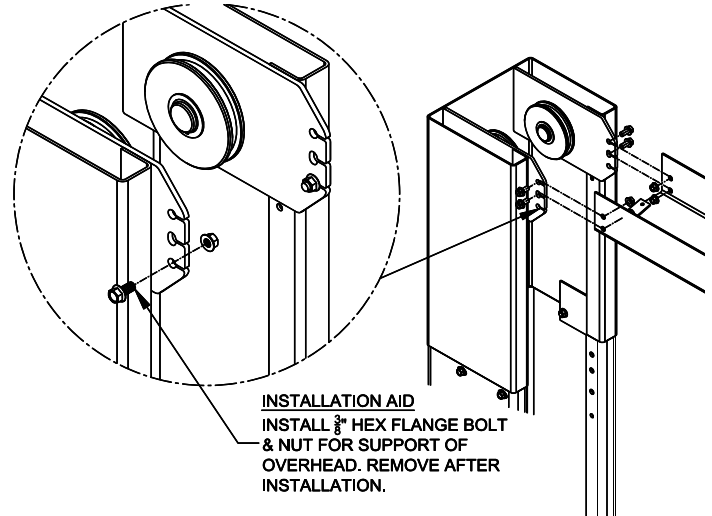

Fig. 4 – Overhead Assembly
- 12) Before raising overhead into position install 4 each (2 per column) hex flange bolts and nuts in bottom hole of column extension (**see Fig. 4 Installation Aid**) for temporary support of overhead. Lift overhead assembly up into position and install with 8 each (4 per column) 3/8"-16 x 3/4" lg hex flange bolts and hex flange nuts per side as shown in **Fig. 4**.